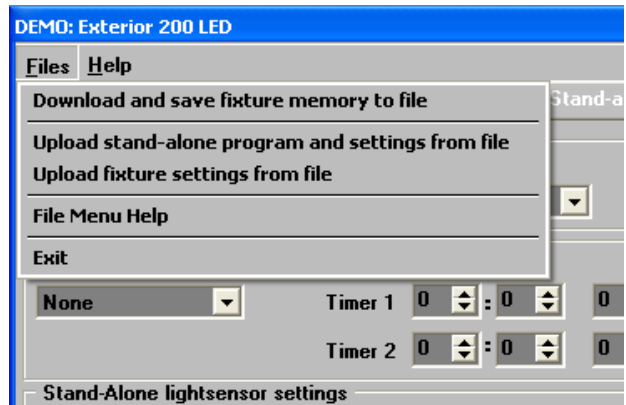

Figure 16: Managing fixture settings and stand-alone programs as files
2. Download and save this fixture's program and settings to your PC using MUM's Files menu (see Figure 16), and then